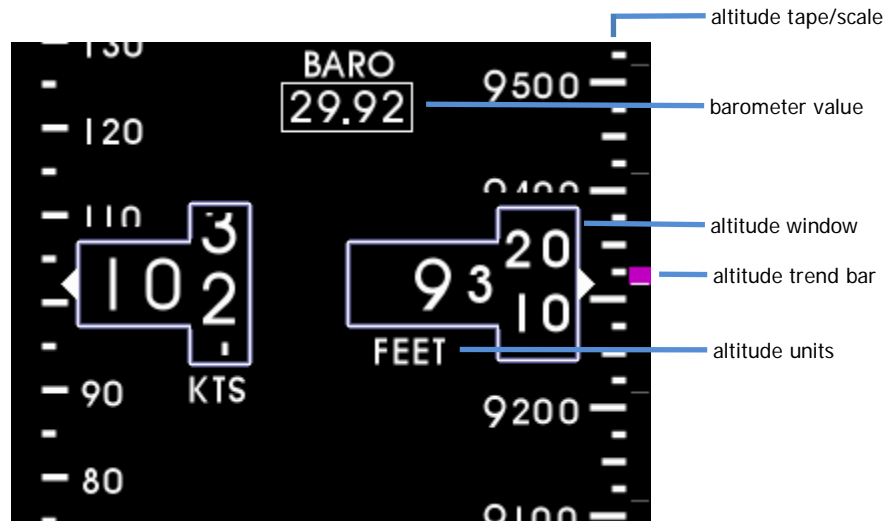

FIGURE 3.5
The altimeter or altitude portion of the display will always appear on the right side of the right display when mounted horizontally and on the right side of the bottom display when mounted vertically. An example of the altitude display is shown in Figure 3.5.
The altitude trend bar is located along the right margin of the altitude display. This feature is optional and can be turned on or off using the Options Menu (see Section 3.3.2). The trend bar is magenta in color and originates at the current altitude on the altitude tape (always from the middle of the display, directly across from the altitude pointer). The height of the trend bar, above or below the current altitude, indicates the altitude of the aircraft on the altitude tape if the current vertical speed or 'altitude trend' is maintained over a period of six (6) seconds. For example, in Figure 3.5, the current altitude is approximately 9,315 feet. The trend bar is at approximately 9,325 feet, indicating that the aircraft's altitude will be 9,325 feet in 6 seconds if the current vertical speed or climb is maintained constant. The length of the trend bar will increase with increased dive or climb rates and approach zero or disappear entirely as the vertical speed reaches zero in level flight.